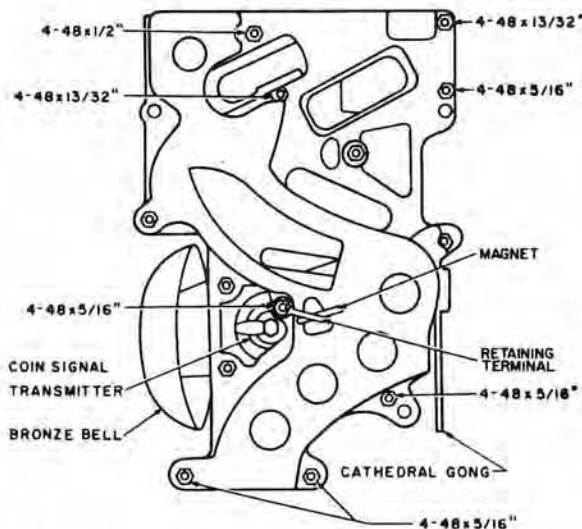

Figure 2. Coin Chute Assembly, Rear View.
- (7) Remove the remaining eight screws and nuts on the coin chute (see Figure 2); then remove the slug rejector magnet and retaining terminal. The three parts may now be separated.